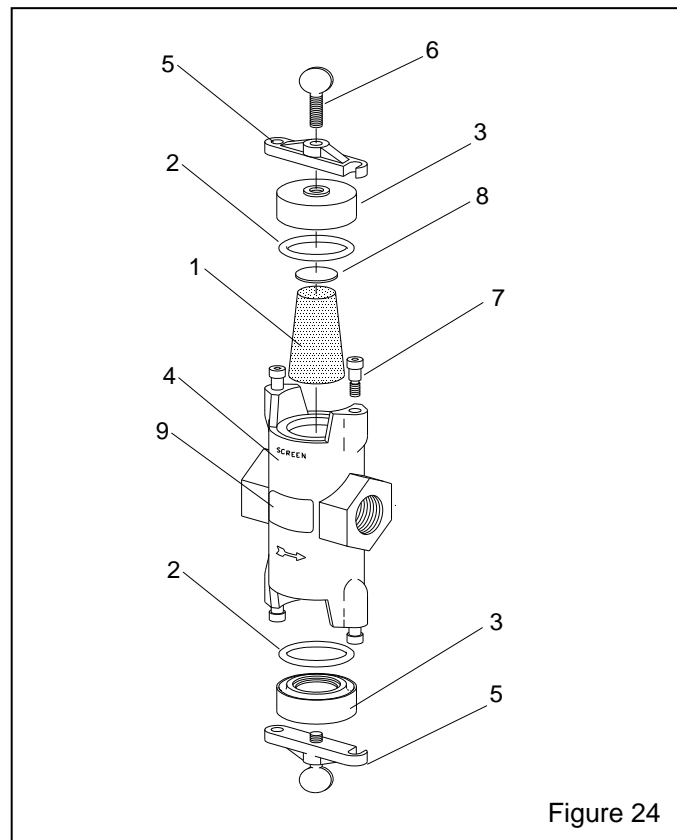

Figure 24
9.2 Abrasive Trap, Figure 24, Optional